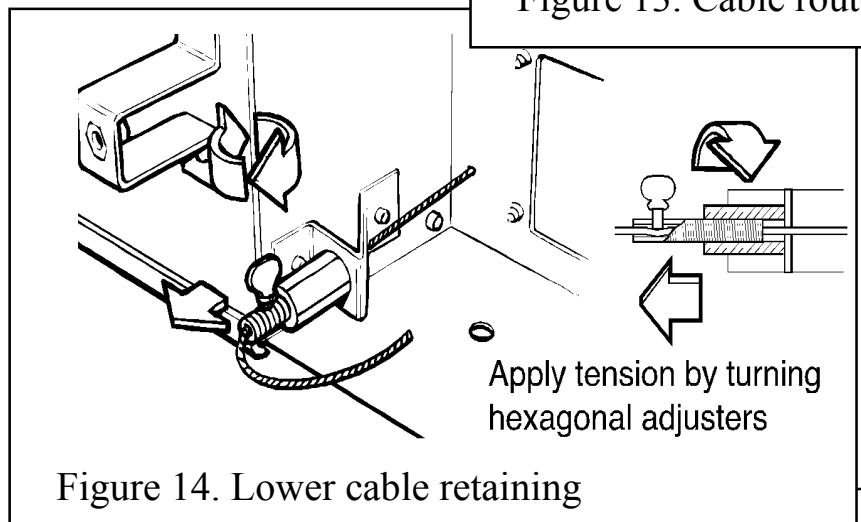

Figure 14. Lower cable retaining
8. Pull each cable taut. Push the cable retainers hard up against the "V" brackets. Tighten the screws in the retainers so that they clamp the cables in position. Apply tension to the cables by turning the hexagonal adjusters by hand. See figure 14.